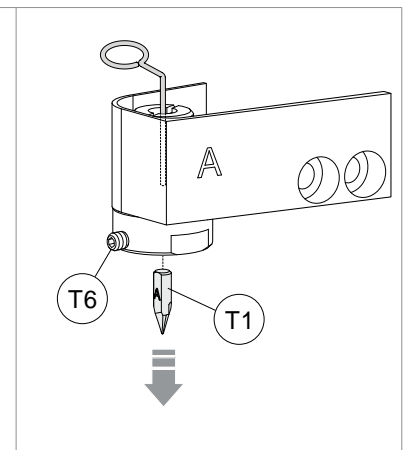

Fig. 155
- 9) Remove the cutter (T1) (Fig. 155). To facilitate the operation, insert a pin (provided) into the corresponding hole.